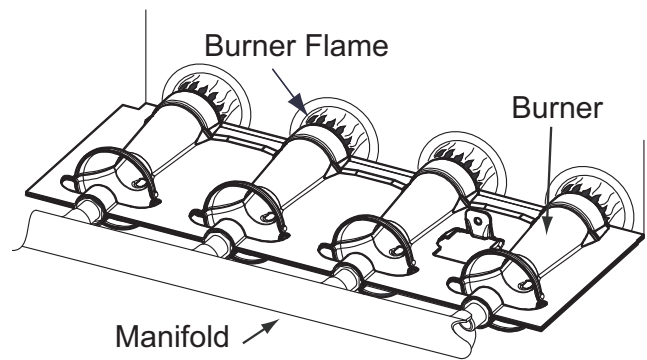

Fig. 60 - Burner Flame
- i. When correct input is obtained, replace cap that conceals gas valve regulator adjustment screws. Main burner flame should be clear blue, almost transparent. See Fig. 60.